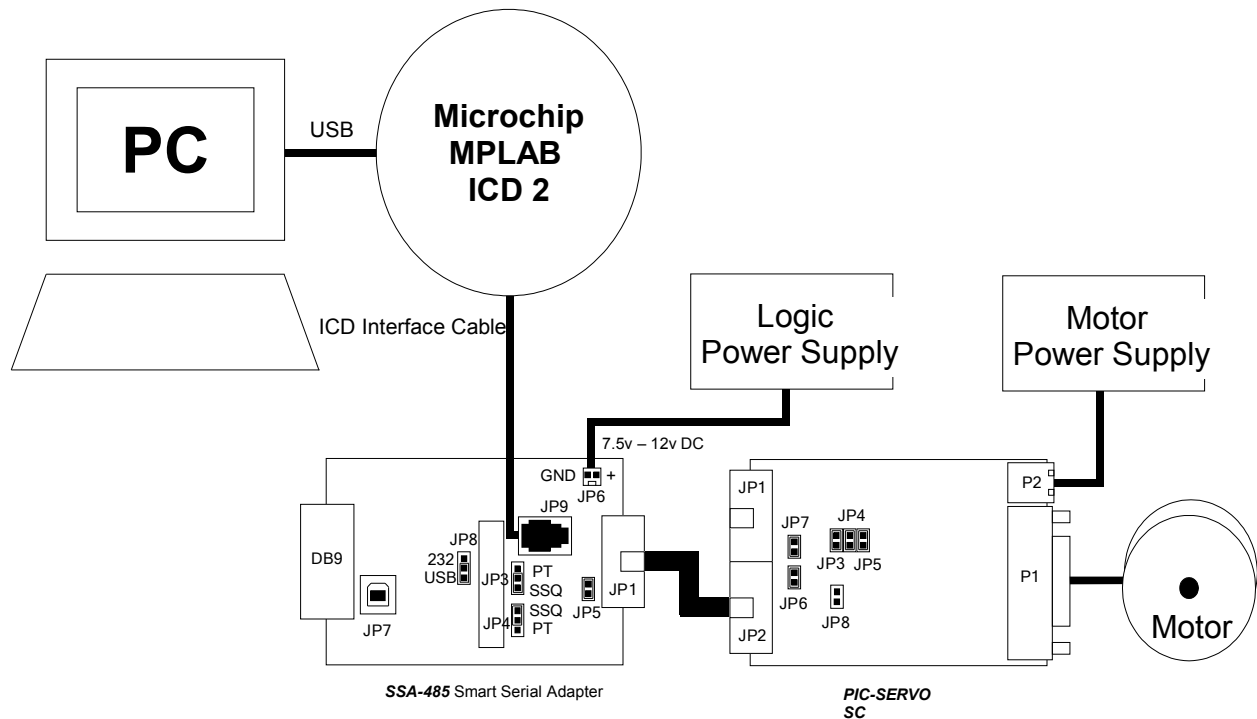

Figure 3: SSA-485 Stand-Alone Host for **PIC-SERVO SC**
1. Set up the sample application components as shown in *Figure 3*. Do not apply power to the target or motor at this time.